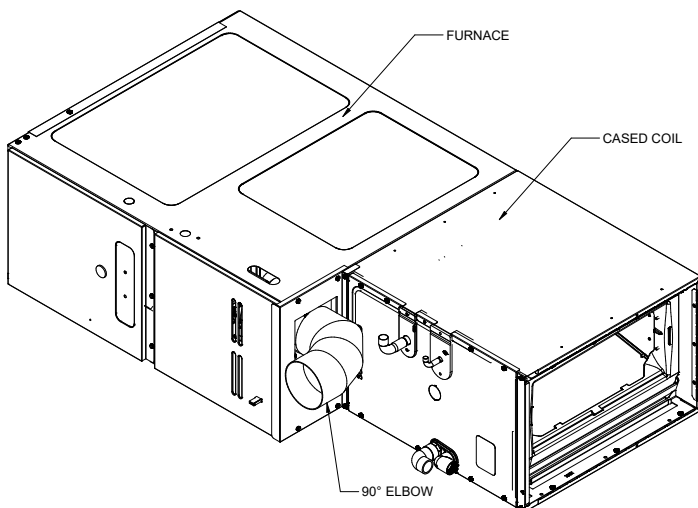

Figure 4A
2. In case of CHPTA1822A coil match up with 80% furnace in horizontal right application, 90° elbow flue vent must be used and oriented away from the cased coil (see Figure 4A).